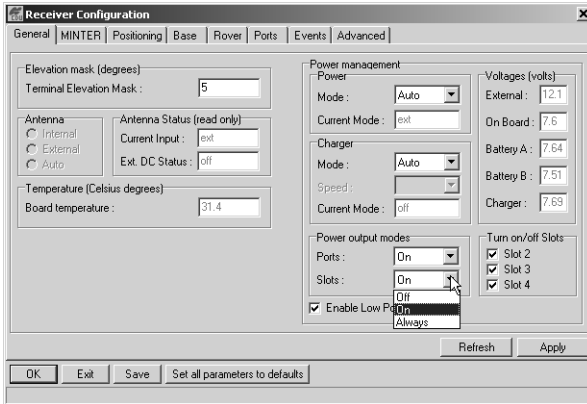

Figure 2-17. Select Power Output Modes – Slots
6. Select the Power output modes Slots drop-down list to set power output on internal slots (Figure 2-17).